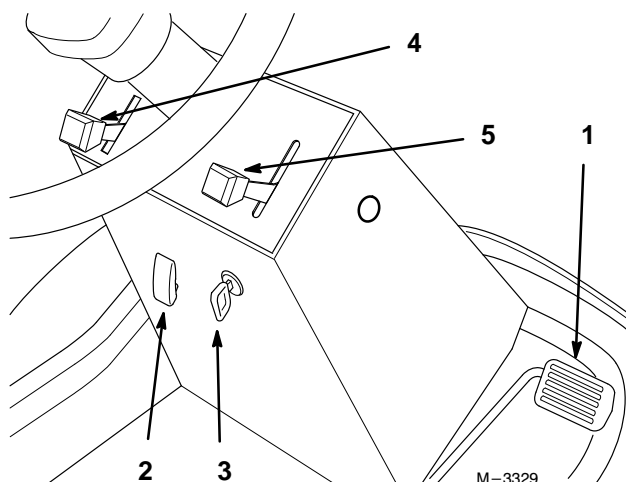

Figure 7
1. Release pressure on the traction pedal to stop movement. (Fig. 7).
2. To engage lift cover and move the PTO switch to the "ON" position (Fig. 7).
1. Closing the cover moves the PTO switch to the "OFF" position (Fig. 7).
1. To go forward, place your foot on the traction pedal (Fig. 7).
3. Slowly press on the upper pad of the traction pedal to move forward (Fig. 7).
1. To go backward, place your foot on the traction pedal (Fig. 7).
3. Slowly press on the lower pad of the traction pedal to move rearward (Fig. 7).